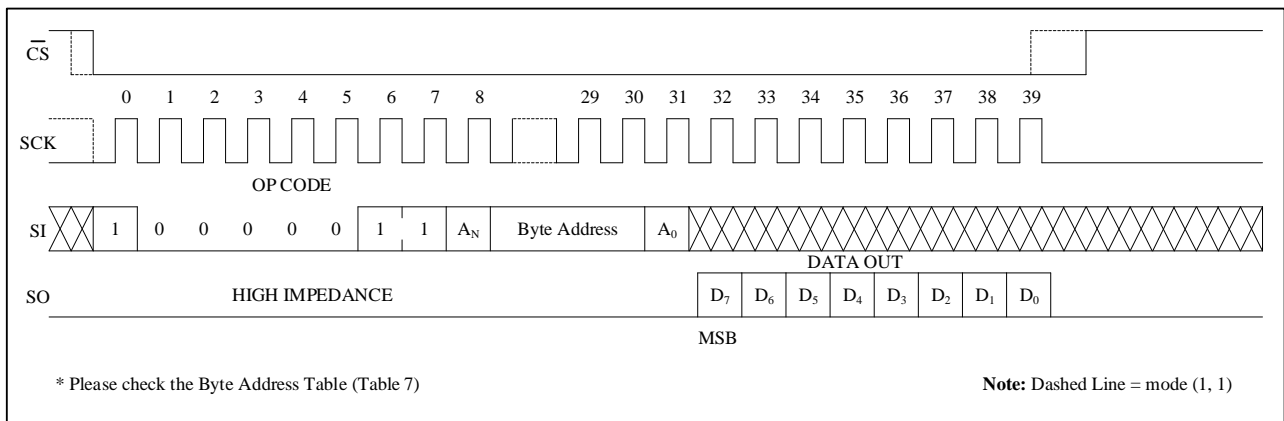

Figure 11
Read Identification Page: Reading the additional 256-byte Identification Page (IP) is achieved using the RDID instruction, according to timing shown in Figure 11. Address bit A₁₀ must be 0, upper address bits are Don't Care, the lower address bits [A₇:A₀] address bits define the byte address inside the identification page. The byte address must not exceed the 256-byte page boundary.
Read Identification Page Lock Status: To read Identification Page Lock status, the host simply sends a RDLS command, according to timing shown in Figure 11. The address bit A10 must be 1, all other address bits are Don't Care. The Lock bit is the bit0 of the byte read on the SO pin. It is at "1" when the lock is active and at "0" when the lock is not active. The same data byte may be read at any time, including during an internal write cycle.